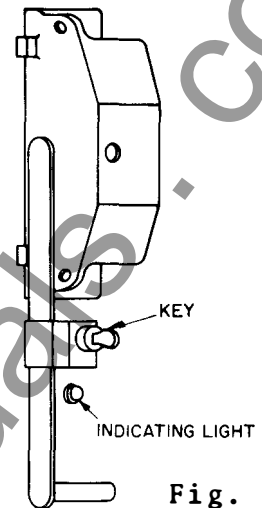

Fig. 8
- 1 - To free handle, turn key 90° to right, shown in Fig. 8. Lock releases handle arm and actuates a safety switch to open electric circuit. Indicating light provides positive visual indication of circuit condition. Light should go on when control power for electric operation is available.
- 4 - Slide latch block up handle arm and place in proper position as shown in Fig. 8. Turn key 90° to left. Handle arm is now locked and electric circuit closed.